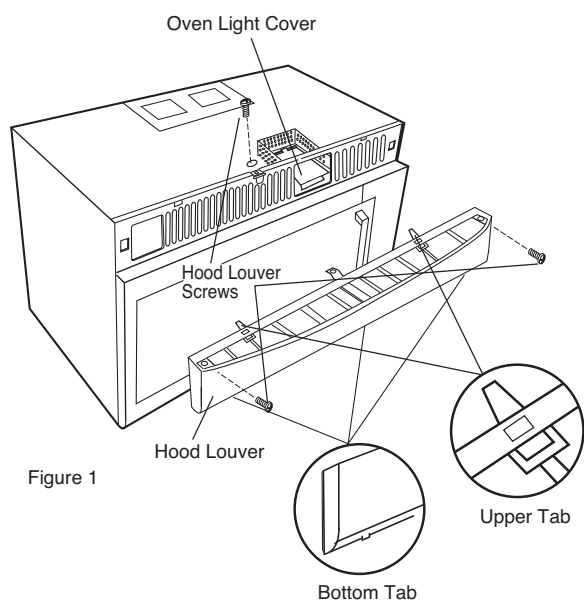

Figure 1
2. Remove three Hood Louver Screws as in Figure 1.
2. Remove the louver per instructions under Charcoal Filter 2-3. Open oven light cover by carefully pulling up on the front edge. See figure 1.